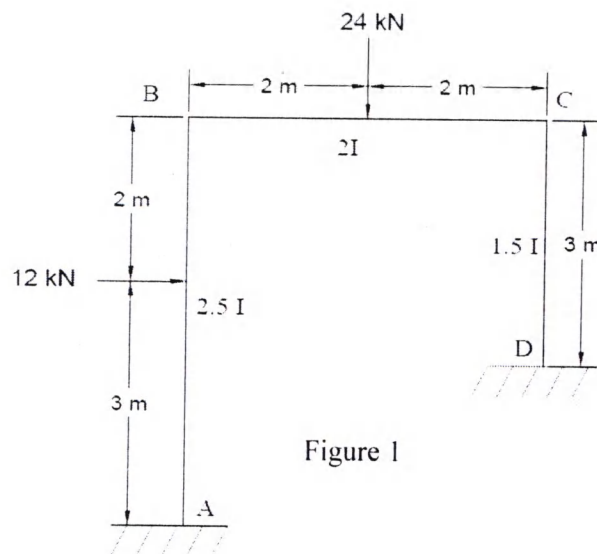

Figure 1
- Determine the moment on the supports and draw bending moment diagram for the frame shown in Figure 1. Use moment distribution method. [10]